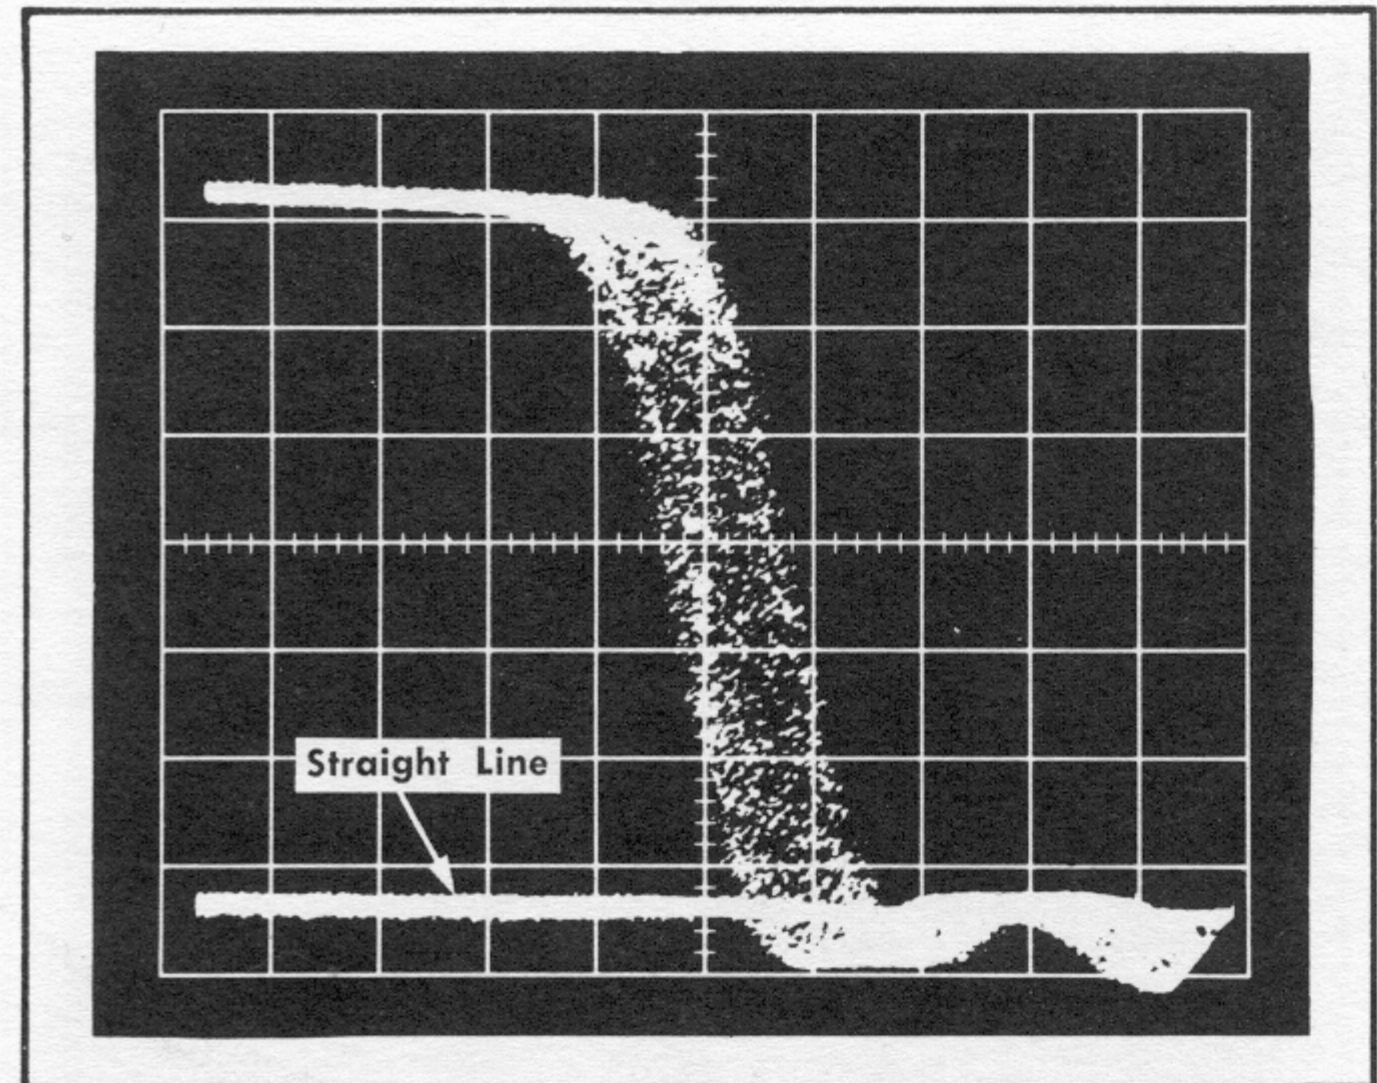

Fig. 5-7. Unity gain display.
e. Set the Sampling System for unity gain; turn the Timing Unit Stability or UHF Sync control clockwise until the display is double triggered. Adjust the Sampling Unit Smoothing control so the lower line of the display is a straight line as marked in Fig. 5-7. Set the Timing Unit Stability or UHF Sync control fully counterclockwise and set the Sampling Unit Variable control for an amplitude of exactly 8 cm. (See Fig. 5-8A.) The Delayed Pulse Gen Bias control, R990, may require readjustment for a stable display with minimum noise. Minimum noise will occur with R990 adjusted in a direction that causes the step to move to the left toward instability.